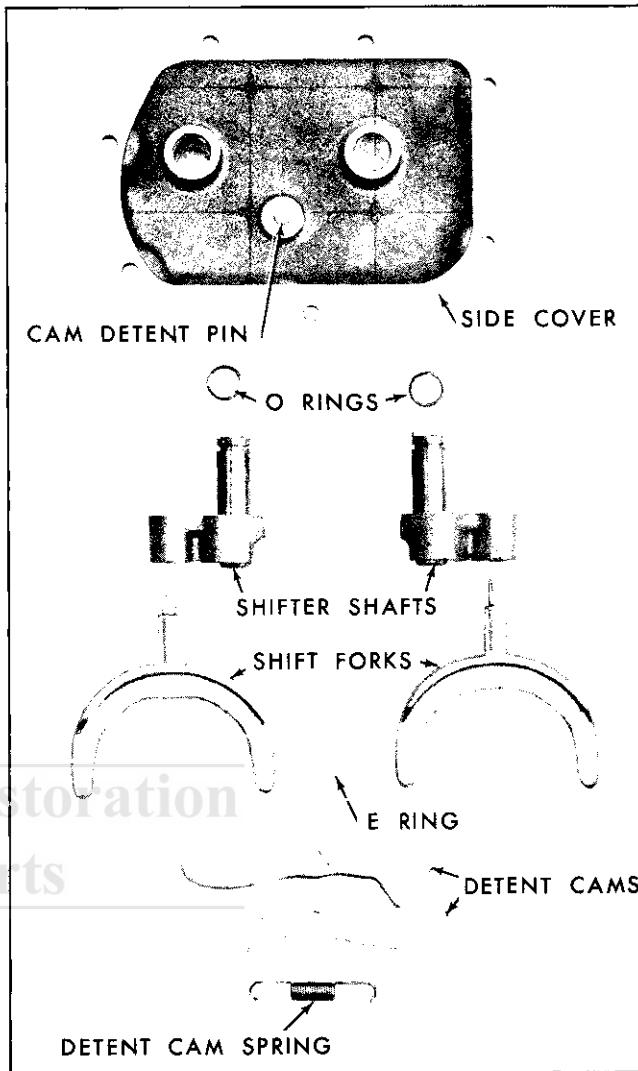

Fig. 7B-8 Exploded View of Transmission Side Cover
10. Using snap ring pliers, expand snap ring at front of extension housing which retains extension housing to mainshaft (Fig. 7B-12) and remove extension housing.
11. Using countershaft alignment tool J 22246, tap out counter gear shaft and its woodruff key through rear of case (Fig. 7B-13). Remove counter gear and two (2) tanged thrust washers.